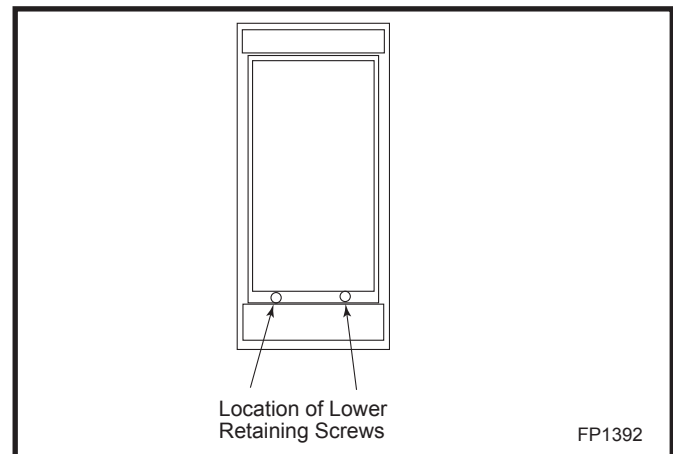

Fig. 37 Remove end glass.
3. Remove both lower retaining screws. Access to these screws is gained through the holes along the lower edge of the frame behind the trim. (Fig. 37)